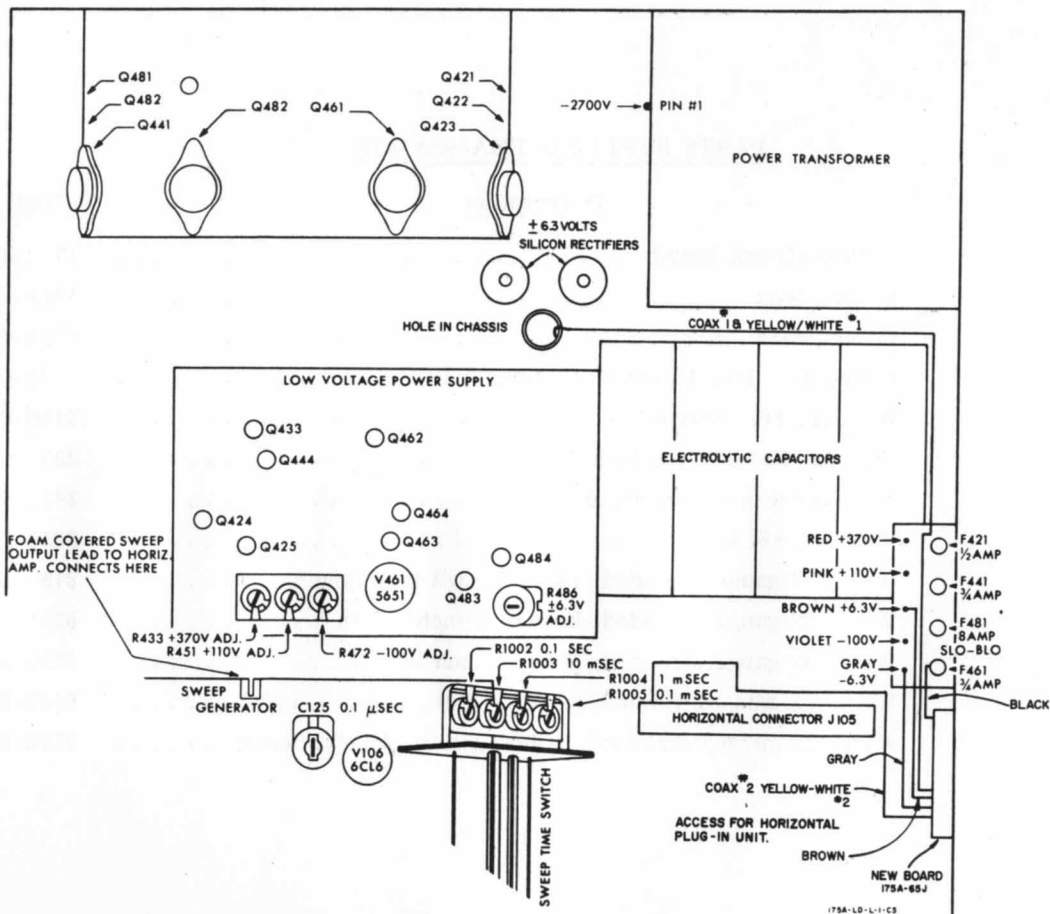

Figure 3. Component Location - Bottom View, Rear Half of Oscilloscope
4. Dress leads as shown in figure 3.